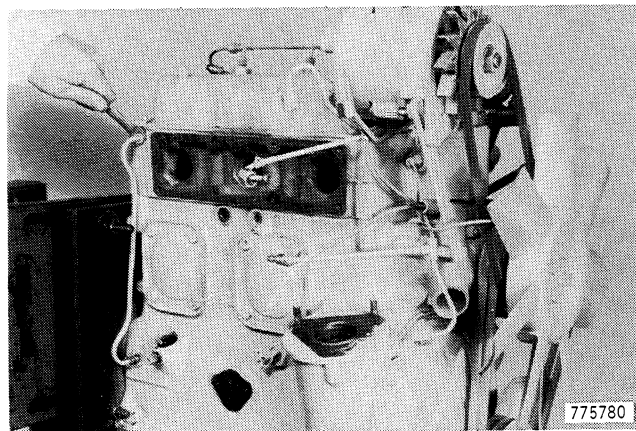

Figure 34
9. Remove the oil return tube, Figure 34.